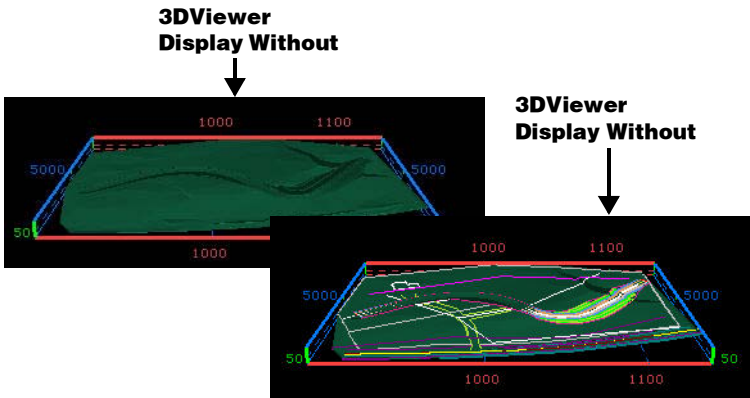

Figure 14-50. Display Linework on the 3DViewer Screen Display
- Linework – select this option to display linework on the 3DViewer screen display (Figure 14-50 on page 14-42).